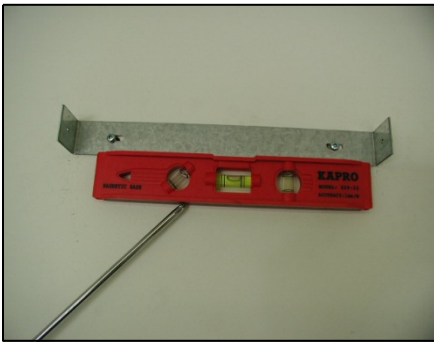

Figure 27
4. Mark the position of the duct cover-mounting bracket. Use calculation **E** from Table 2 for references. Attach and secure duct cover-mounting bracket with two screws (not provided). Refer to Figure 27. **NOTE:** Inner duct cover will cover the mounting bracket.